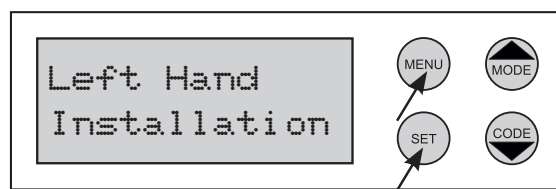

Fig. 20
- 2 To change to **Left Hand Installation**, press **MENU** then press **SET** to confirm (Fig. 20).